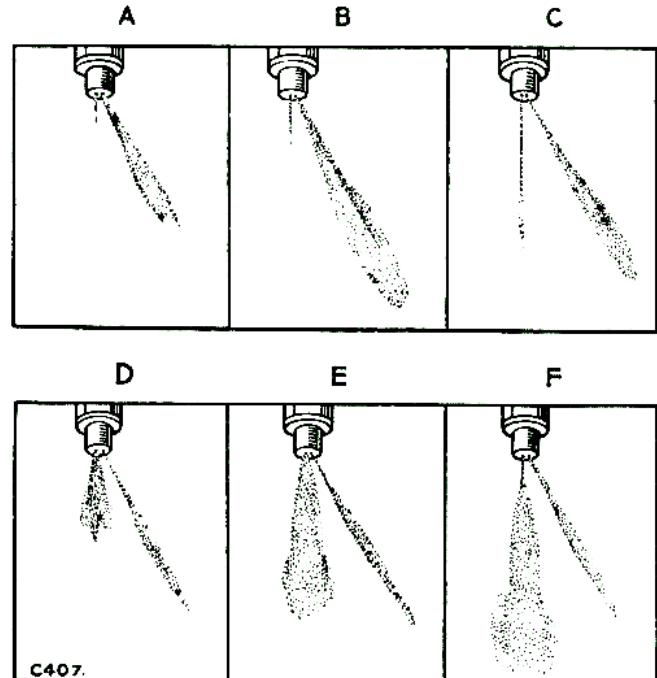

Fig. M-43—Injection nozzle spray form development
4. Whilst the starter turns the engine over, observe the manner in which fuel issues from the nozzle and compare the spray form with section "A" of Fig. M-43.
- (d) Spray form must compare favourably with the illustration Fig. M-43.
The auxiliary spray form may be tested at 60 strokes per minute and the main spray at 140. Spray development from starting to running speeds is illustrated in Fig. M-43; this illustration should be referred to and compared with the spray form of nozzles under test.